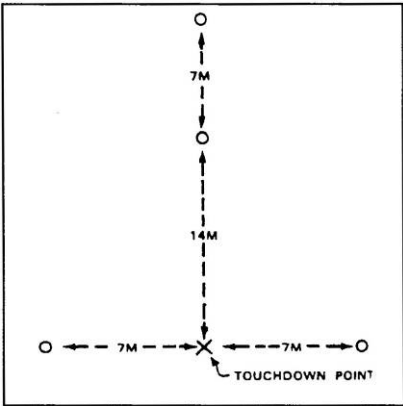

Figure 3-39. Landing site marked at night
- b. At night, the landing site and touchdown point are marked by an inverted "Y" composed of four lights. Strobe lights, flashlights, or vehicle lights may also be used to mark the landing site. The marking system used will be fully explained to the pilot when contact is made. Refer to Figure 3-39.